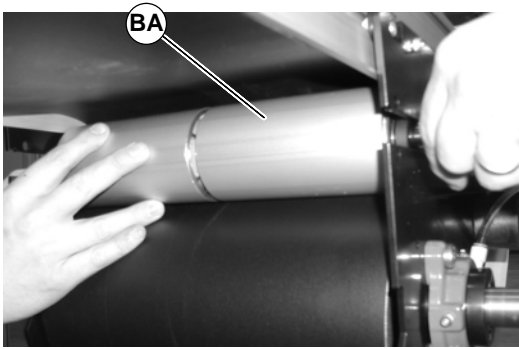

Figure 65
7. Slide out tensioning pulley (BA of Figure 65).